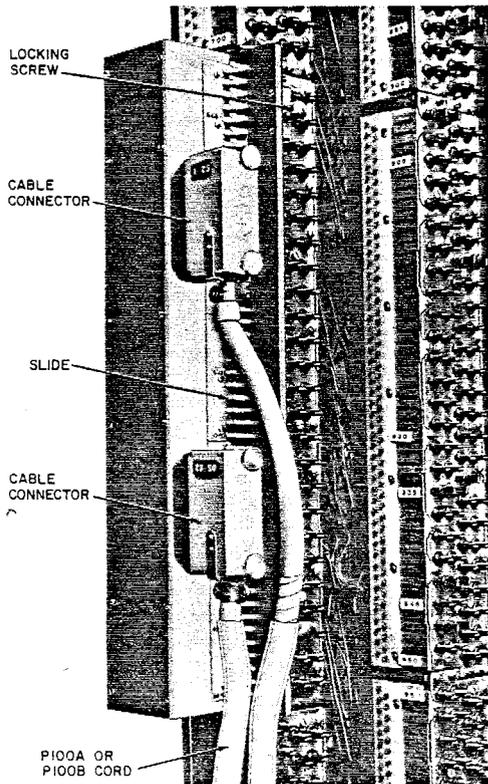

Fig. 3—C Test Connector on 300-Type Connector
3.01 The front and back views of the C test connector are shown in Fig. 3 and 4. The connector consists of a plastic baseplate containing an assembly of 100 spring-mounted plungers (50 pairs). The plungers are arranged to make positive contact with the cable pair test buttons located on the left side of 300-type connectors.